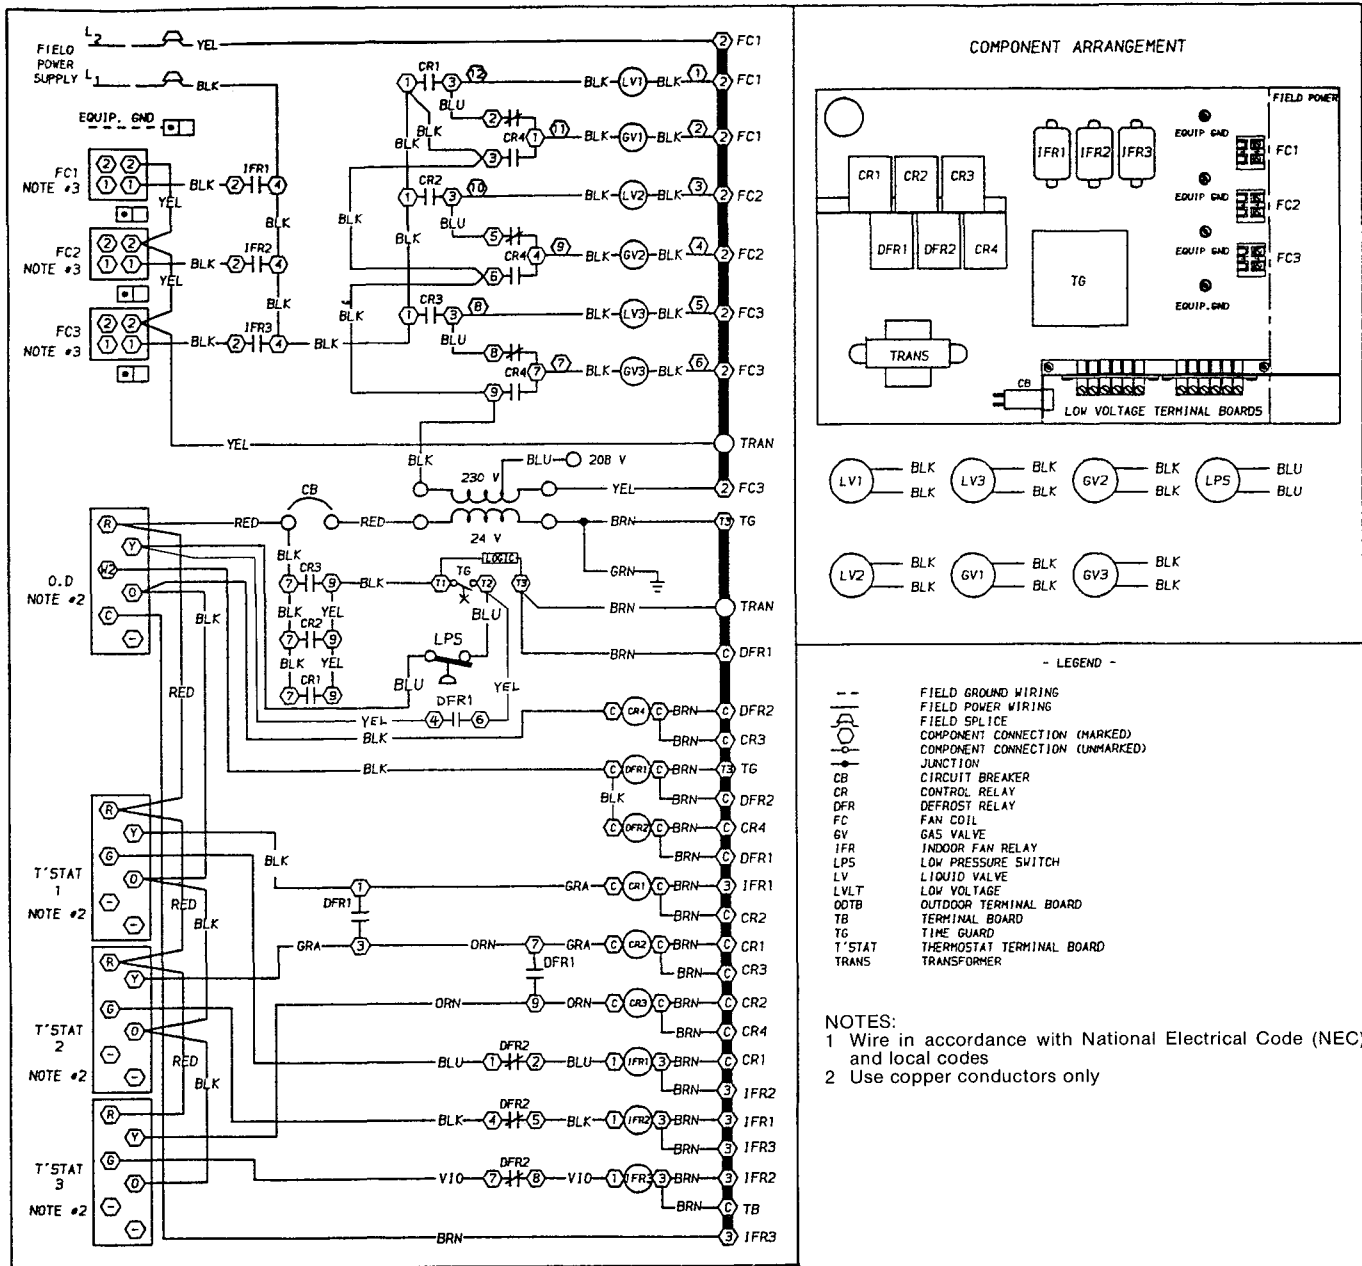

Fig. 7 — Multiplex Control Box Wiring Schematic
- See Fig. 7 and 8 wiring diagrams and Table 4, in addition to wiring diagrams provided on separate components.